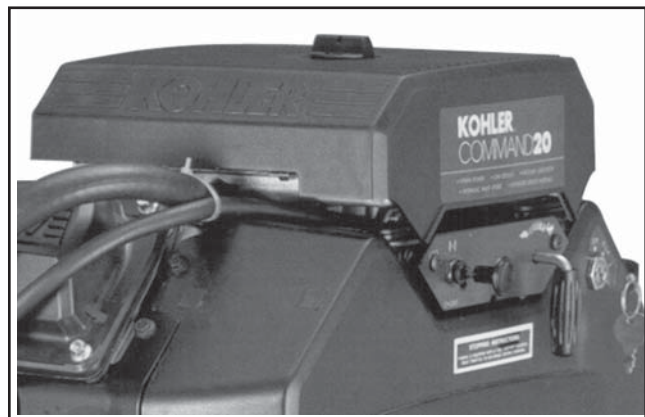

Figure 5. Optional Engine Mounted Throttle and Choke Controls.
1. Place the throttle control in the **idle** position. Place the choke control (if equipped) into the **on** position. See Figure 5.